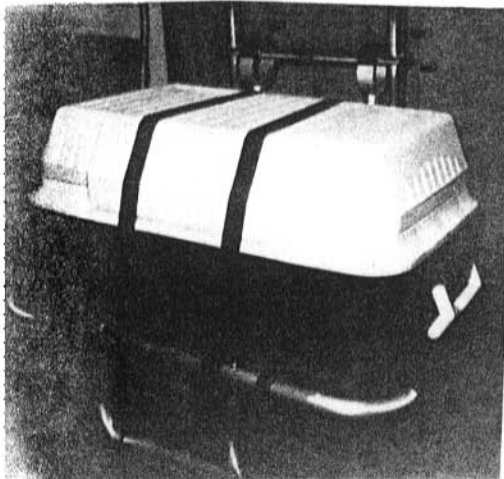

FIG. 6
5. Place the container in the rack. **IMPORTANT:** Adjust width, and/or length as needed. Avoid excess space between the rack and the container to provide the optimum fit and security for your container (FIG. 6).
6. Use 75" Strap with Superlock Buckle to thread around the middle step behind the rack (strap should lay in between the ladder rail and the rack's vertical arm), over the top of the container and around the top horizontal bar in the front of the rack. Then go under the container and return to the back of the ladder where the buckle should be threaded.. See FIG. 6. **PULL STRAP TIGHT!** Extra strap length should be tied off. NOTE: Strap will not tighten if buckle is placed on a curved section, such as step and tubing. It must be placed on straight sections such as areas in between steps, top of container, etc.